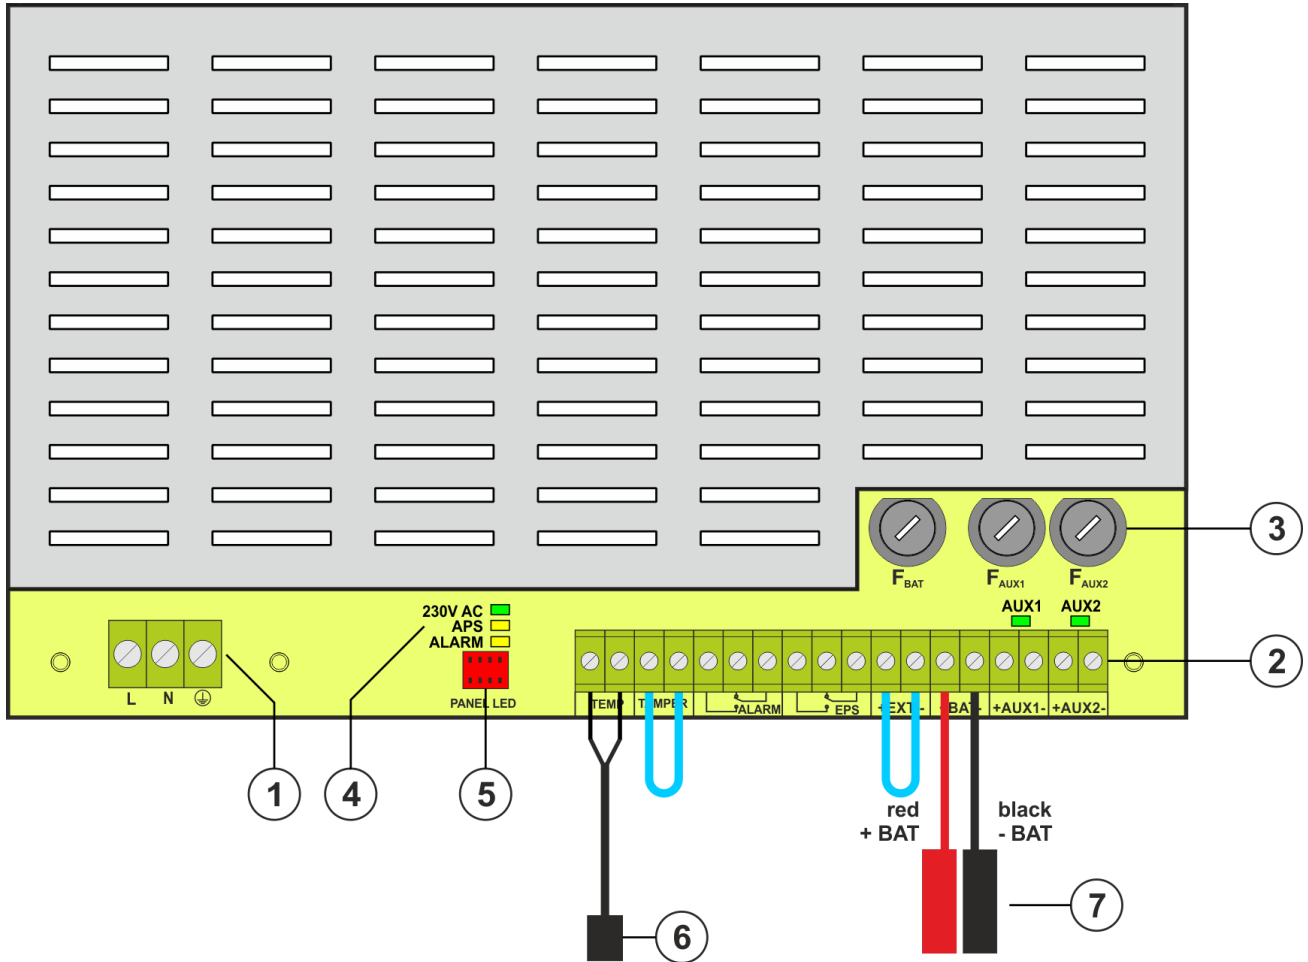

Fig. 2. The view of the power supply module based on the EN54C-2A7.
Table 1. Elements of the PSU (Fig. 2).
①	L-N-PE 230 V power connector with protective terminal
②	<p>Terminals:</p> <p>TEMP – input of the battery temperature sensor</p> <p>TAMPER – input of the microswitch tamper                      Closed input = no indication                      Open input = alarm</p> <p>ALARM – technical output of collective failure of the PSU - relay type</p> <p>EPS – technical output of AC power failure indication                      open = AC power failure                      closed = AC power - O.K.</p> <p>EXTi – external failure input                      Closed input = no indication                      Open input = alarm</p> <p>+BAT- – terminals for connecting the battery</p> <p>+AUX1- – AUX1 power output ( - AUX=GND)</p> <p>+AUX2- – AUX2 power output ( - AUX=GND)</p> <p>CAUTION! In Fig.2 the set of contacts shows a potential-free status of the relay, which corresponds to power supply failure.</p>
③	<p>Fuses:</p> <p>FBAT – fuse in the battery circuit,</p> <p>FAUX1 – fuse in the AUX1 output circuit,</p> <p>FAUX2 – fuse in the AUX2 output circuit,</p> <p>The fuse values are given in table 4 - "Electrical parameters".</p>
④	LEDs – optical indication: 230 V – voltage in the 230 V circuit APS – battery failure ALARM – collective failure AUX1 – AUX1 output voltage (at the AUX1 connector) AUX2 – AUX2 output voltage (at the AUX2 connector)
⑤	PANEL LED – connector to the external LED indicators
⑥	Battery temperature sensor
⑦	Battery connectors; positive: +BAT = red, negative: - BAT = black
①	PSU (tab. 1, Fig. 2)
②	Battery temperature sensor
③	Battery connectors; positive: +BAT = red, negative: - BAT = black
④	Place to install the EN54C-LB4 or EN54C-LB8 fuse module
⑤	TAMPER; microswitch (contacts) of antisabotage protection (NC)
⑥	Fitting battery
⑦	Embossing for cable gland
⑧	Embossings for concealed wires
⑨	Lock
**CAUTION!** In Fig.2 the set of contacts shows a potential-free status of the relay, which corresponds to power supply failure.